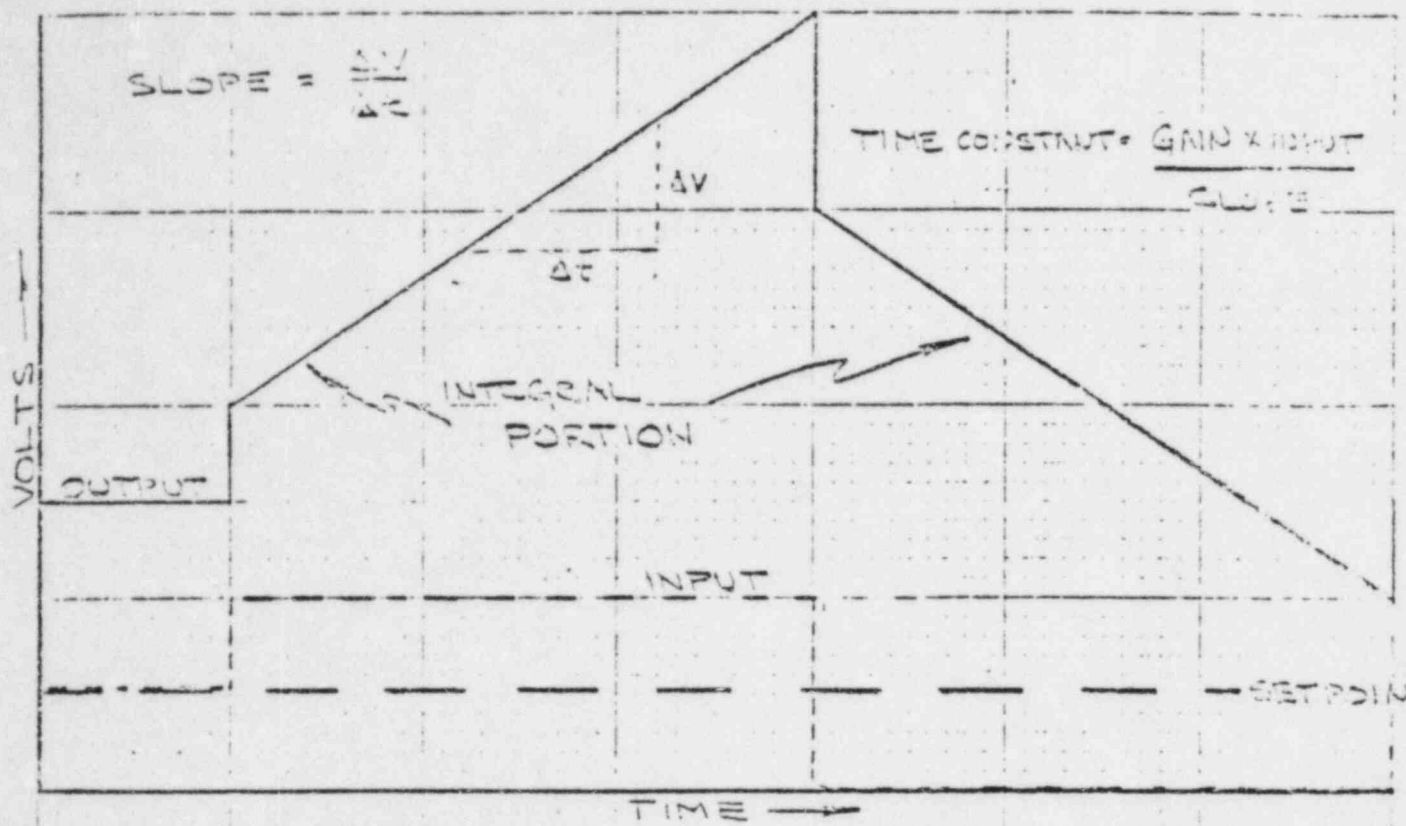

FIGURE 1. INTEGRAL PORTION
- 7.7.16 Determine and record the AS FOUND reset time constant by dividing the slope of the reset portion of the recorder trace (volts/sec) into the cards gain (see figure 1).